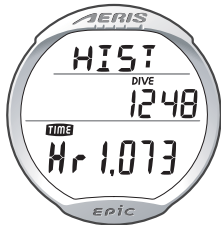

Fig. 75 - HISTORY 1
**HISTORY 1** screen information includes (Fig. 75):